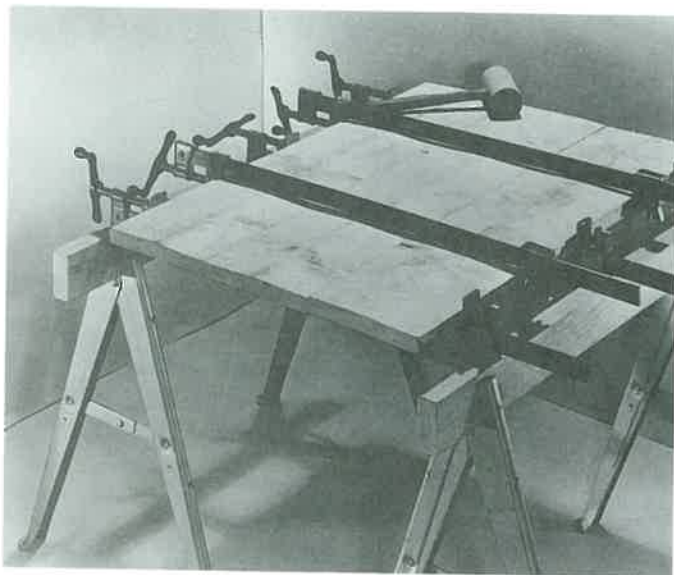

Figure 33-27. Alternate bar clamps on top and bottom of assembly. Use a mallet to position boards which slip out of place. (Franklin International)
10. Place bar clamps over the assembly, spaced between the bottom clamps. See Figure 33-27.